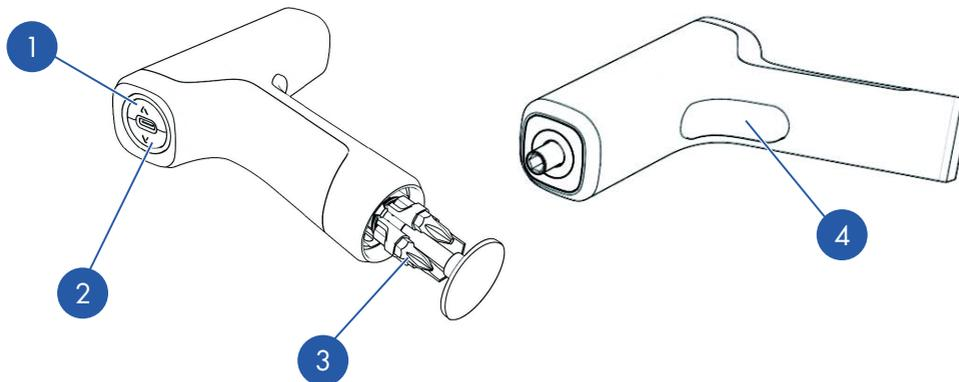

Fig. 4: Reverse/forward direction buttons and main switch
Torque selector (Fig. 4/①):
- To tighten the screw, press the forward direction button (Fig. 4/①) and the main switch (Fig. 4/④). The tool will turn forwards into the screw.
- To loosen the screw, press the reverse direction button (Fig. 4/②) and the main switch (Fig. 4/④). The tool will reverse rotate to loosen the screw and 4 white LEDs will rotate anti-clockwise.
- To set up torque mode, press the forward direction button/torque selector (Fig. 4/①); see the **Torque selector** table.
1. Press the bottom of the tool to release the integrated bit magazine (Fig. 4/3). If the bit magazine is extended, press again to close the bit magazine.